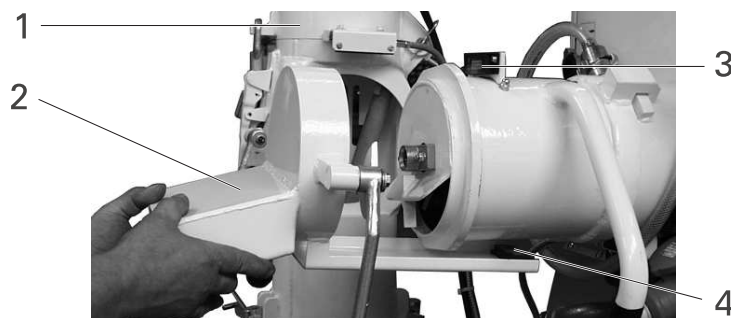

Fig. 20: Safety outlet
- Release the lock on the pump mixing pipe and pivot the complete pump assembly (fig. 20, 1) away from the mixing pipe
- Mount the safety outlet (fig. 20, 2).
In place of the magnetic safety switch "Pump mixing pipe" (fig. 20, 3) the magnetic safety switch "Safety outlet" is engaged.